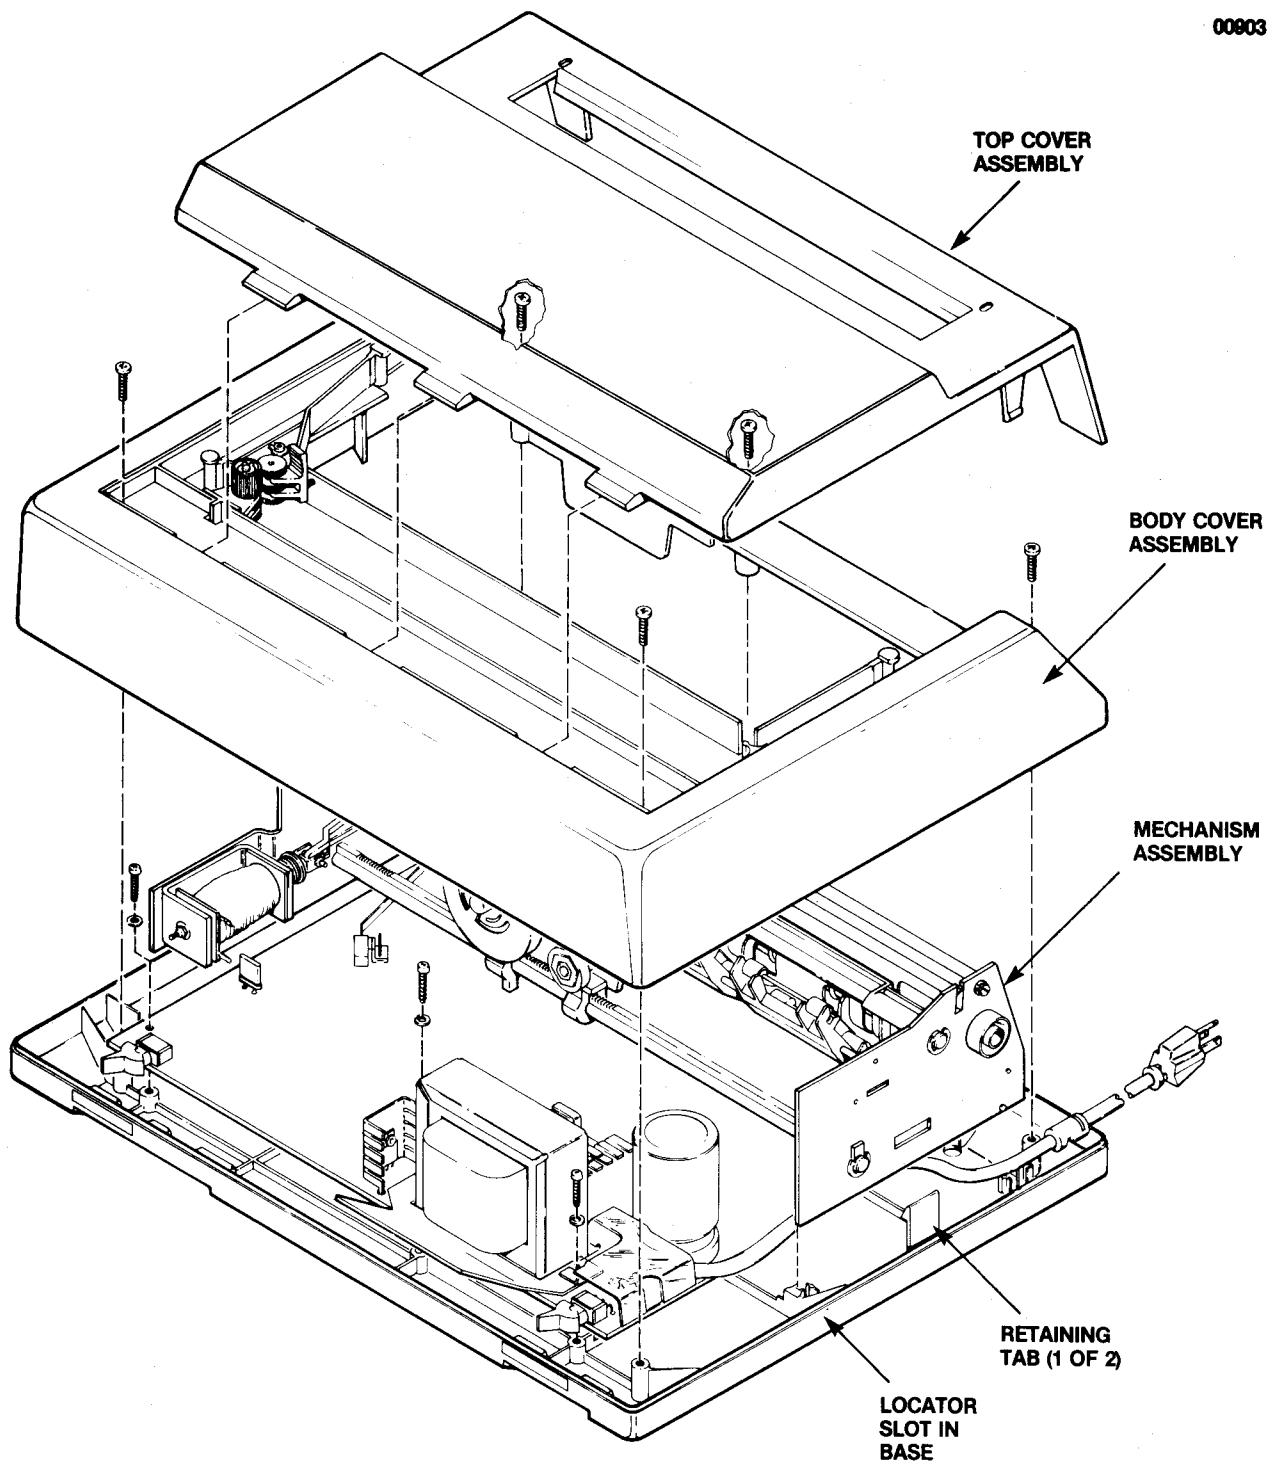

Figure 6-1. MECHANISM ASSEMBLY REPLACEMENT
6.2 MECHANISM ASSEMBLY (See Figure 6-1)